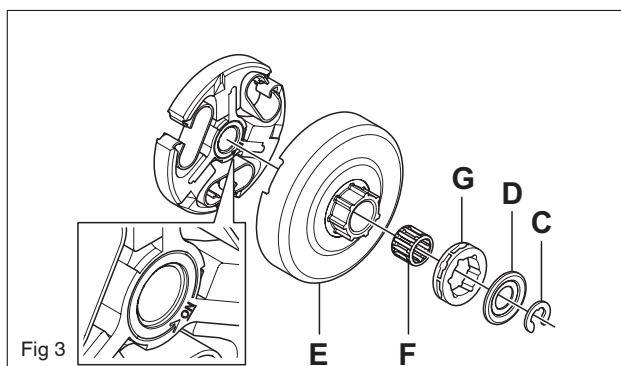

Fig 3
6. Remove the locking ring (C) with washer (D) and lift up the clutch drum (E) with needle bearing (F) and chain drive sprocket (G). See fig. 3.